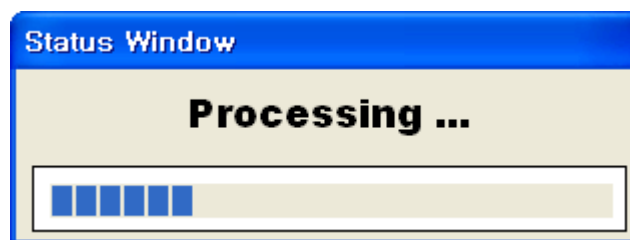

Figure 14. Firmware uploading window
④ When uploading is complete, a message box with “Complete Uploading” will be displayed as shown in Figure 14.